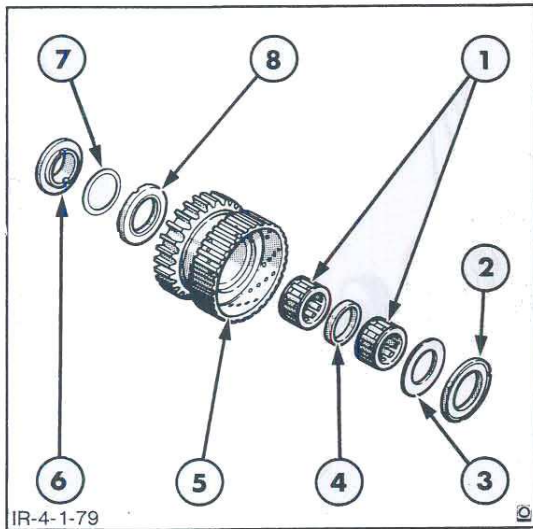
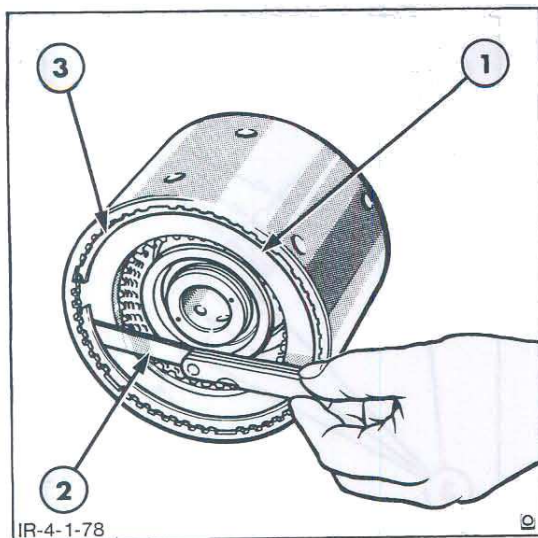

Figure 78
Figure 80
1. Thoroughly clean the front input shaft and bearings Figure 80 and the clutch components, Figure 78, with suitable solvent and allow to dry. Use air to clean out the oil passages in the input shaft and clutch housing. Do not spin the bearings with compressed air.
4. Inspect the working surface of the clutch pistons, Figure 78, for scoring. If scored, fine emery cloth may be used to smooth the surface. Ensure the 'O' ring seal grooves are clean and that burrs do not exist.
4. Place the thrust washer, Figure 78, on the flat hub of the clutch housing (the hub in the front of the housing is recessed), then install the rear clutch hub (reverse idler input), bearings, and spacer. Install the clutch plates, one by one, starting with a steel plate then a bronze plate.
- With the rear clutch pack assembly as previously described, use a feeler gauge to check the clearance between the clutch pressure plate and the snap ring, Figure 80, while holding the plate against the clutch disc.